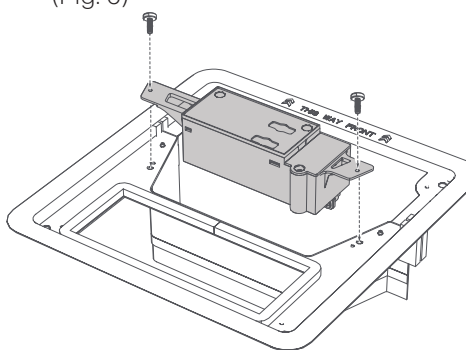

Fig. 5
- Plug the 3-pin connector of the rooftop into the 3-pin terminal interface on the control box. (Fig. 5)